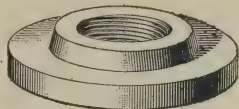

FIG. 35
49. Fig. 35 shows a **common flange** threaded inside to receive the pipe. The bolt holes are not shown in the figure; these are usually drilled to correspond with the bolt holes of the apparatus to which the flange is intended to be bolted. Solid and common flanges can be procured in stock sizes without bolt holes.